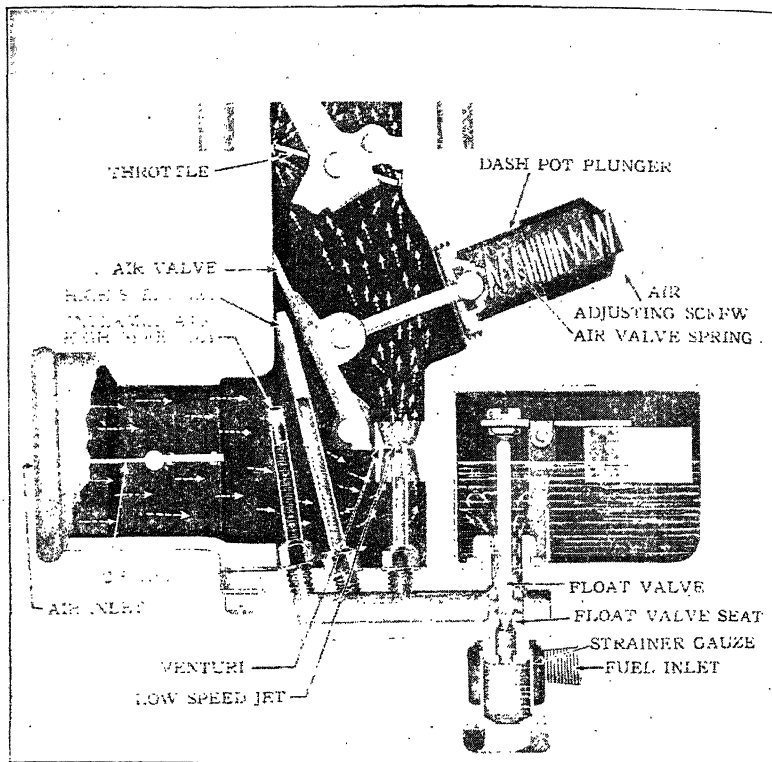

Fig. 69. Parts of a Typical Marvel Carburetor with Idling Action Illustrated
**Principles of Marvel Up-Draft Carburetor.** This is shown in Fig. 69 and other figures. Three jets are provided within the mixing chamber. These jets provide the required amount of gasoline for the varying speeds. The low-speed jet is located in the venturi, which is a fixed air passage. The high-speed jet is located just under the air valve and an intermediate high-speed jet is just under and back of the high-speed jet. The gasoline jets are of a fixed size, calibrated at the factory to meet the requirements of the engine to which the carburetor is fitted. The air valve, which is located at the lower end, is in the nature of a tongue, carefully designed to fit into the circular form of the carburetor body.
**Carburetor Operation.** The passage of the fuel from the bowl direct to the low speed jet in the venturi is shown in Fig. 69. The adjustment of the air valve to pass more or less air effects the flow through the fixed air passage. The air entering the carburetor comes in past the choker. The carburetor suction on low speed is induced by more pressure on the air-adjusting screw. In this way more or less fuel is caused to flow from the low-speed jet and con-